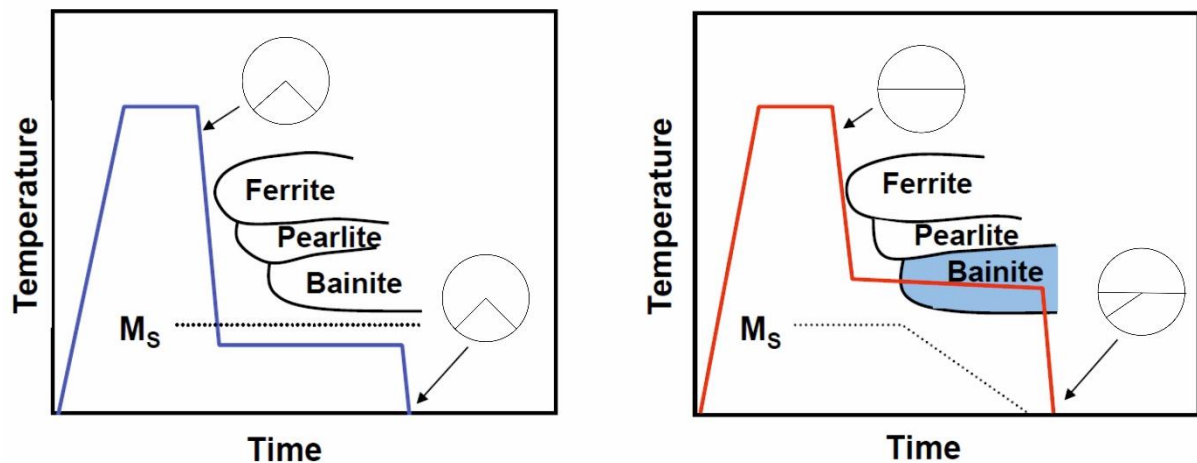

Figure 6: Processing routes of different steel grades of the 1st generation AHSS
- b) Figure 6 shows processing routes for the production of two different AHSS grades of the first generation, which have almost the same chemical composition, but different phases after heat treatment. Match the steel grades and indicate the predominant phases in the pie chart.
- d) Based on your background knowledge, you suggest it would be better to use a second generation (e.g. TWIP steels) instead of the first generation AHSS from c). Draw a schematic diagram of the heat treatment for TWIP steels in the graphic below and name the phase fractions present after each heat treatment step in a pie chart (in a similar way as Figure 6). What are the advantages of TWIP steels in terms of formability, crash safety, and durability compared to TRIP steels?